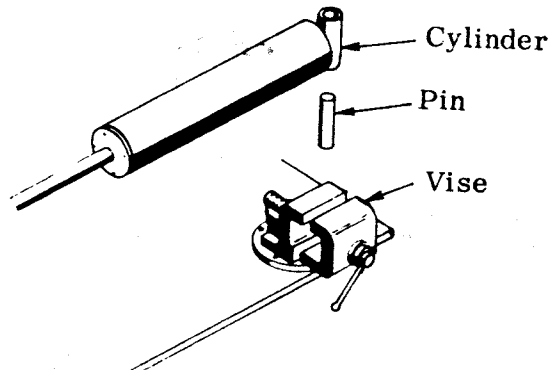
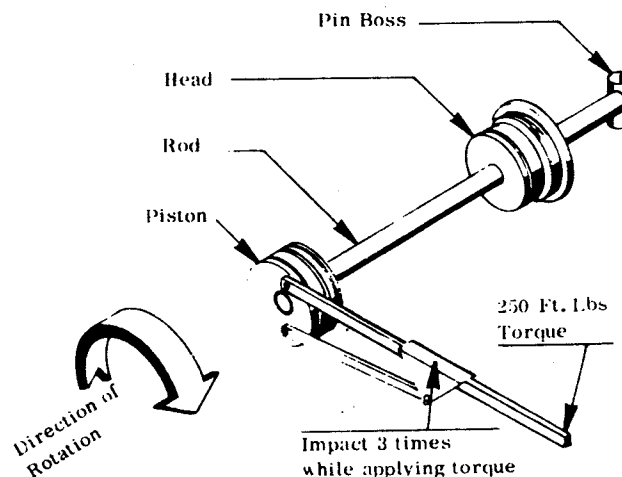

Figure E-1. Securing Cylinder
Figure E-6. Piston/Rod Assembly
3. Place the cylinder on a flat surface near a vise. Slip a pin through the pin boss and clamp the pin in a vise. (Figure E-1).
5. Secure the rod pin boss in the same manner as the cylinder pin boss (Figure E-1).
13. Secure the rod as shown in Figure E-1 and screw the piston onto the rod by hand. You should be able to get the piston almost all of the way onto the rod before using the spanner wrench.
14. Torque the piston onto the rod at 250 ft. lbs. of torque. Impact the wrench three times with a heavy plastic hammer while maintaining the torque (Figure E-6).
18. Secure the cylinder (Figure E-1) and torque the head in the same manner as the piston (step 14 and Figure E-6).